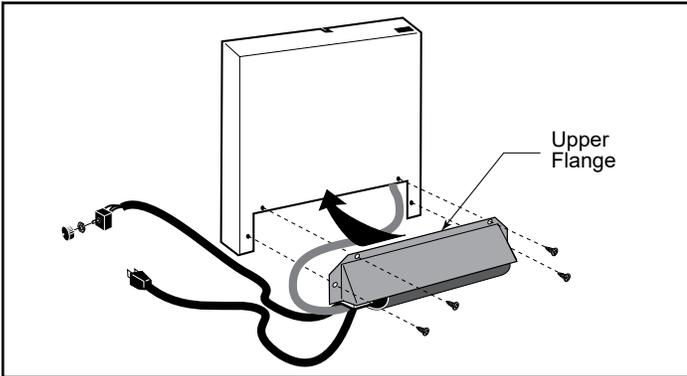

Figure 2.1 - Place upper flange behind lower edge of shroud.
1. Remove shroud assembly by loosening two (2) hex head bolts on lower inside of shroud. Lift shroud assembly up and away from stove.
2. Attach the fan to the rear shroud by engaging the upper flange of the fan skirt under the lower edge of the shroud and secure the skirt with the four screws and one star washer provided, Figures. 2.1 & 2.2.